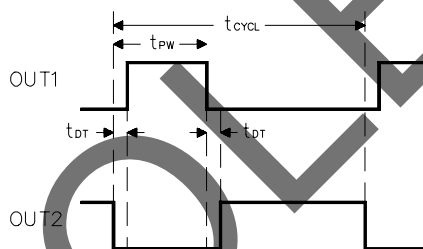
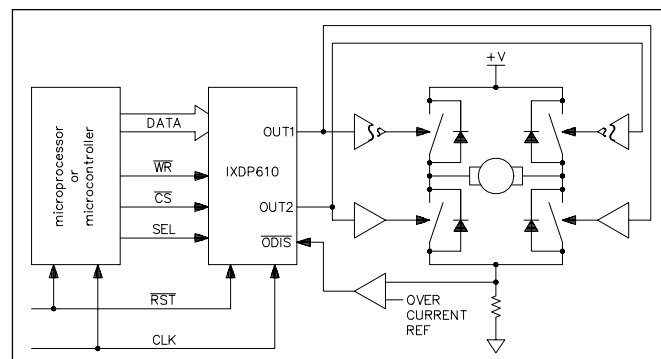

Fig. 2 PWM Cycle Time and Dead-Time Definition
Fig. 3 IXDP610 to DC Servo Motor Full Bridge Block Diagram
Because the IXDP610 is a digital IC, and is programmable, it is possible to tailor the dead-time period (defined as  $t_{DT}$  in Fig. 2). IXDP610's programmable dead-time feature is difficult to duplicate in the equivalent analog system. The control of a switching bridge usually involves a process of alternating the "on-time" of two power switches connected in series between a high-voltage and a low-voltage. For example, the H-bridge of Fig. 3 can be operated by turning the upper left and lower right transistors on and leaving the two remaining transistors off, during the first half of the PWM cycle. In the second half of the cycle, the upper right and lower left transistors are on and
**Dead-time counter bits** - these three bits determine the dead-time period, as defined by Fig. 2. Dead-time is that period of time when both OUT1 and OUT2 are low. Any binary number from 000 through 111 is valid. Thus, eight different dead-time periods can be programmed. DT0 is the least significant bit and DT2 is the most significant bit. A 000 binary means no dead-time and a 111 means maximum dead-time. Each dead-time count corresponds to two CLOCK periods. For instance, if a binary three (3) is programmed into the dead-time bits, the dead-time will be six external CLOCK cycles long.
In a typical PWM cycle (refer to Fig. 2) two dead-time periods will occur. One follows the turnoff of OUT2. The dead-time counter is triggered by an output turning off. During a dead-time period, both outputs are guaranteed to be off (no dead-time periods occur during 0 % and 100 % duty-cycle states). The dead-
time period overlaps the ontime of an output, therefore, it shortens the on-time without affecting the base PWM cycle time. A dead-time period is only inserted if an output changes from high to low (on to off). Thus, if a PWM duty cycle is chosen such that an output would be on for a period of time equal to or less than one dead-time period, the switch associated with that output will not be turned on during the PWM cycle. In this special case, one will observe only dead-time period per PWM cycle time, rather than the two dead-time periods shown in Fig. 2.
The Pulse Width number that is written to the Pulse Width latch represents the high time of OUT1 (the low time of OUT2). The Dead-time Counter decreases the on-time (output high) of an output by one dead-time period ( $t_{DT}$ ). See Fig. 2 and the description of the dead-time bits in the Control latch to determine the duration of one dead-time period.
"PWM cycle time" is  $t_{CYCLE}$  in Fig. 2.